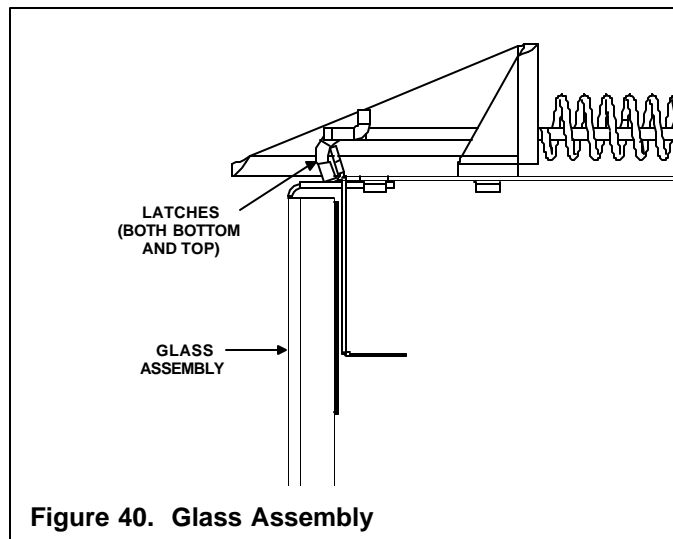

Figure 40. Glass Assembly
- Pull the four glass latches off of the tabs on the glass frame. Remove glass door from the unit (see Figure 40).